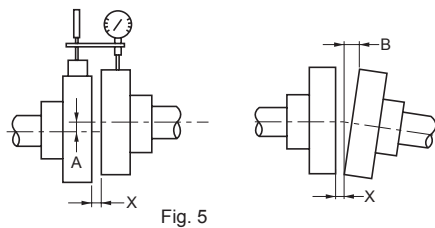

Fig. 5
1. When using a coupling, the dimensions (A, B, X) in Fig. 5 should be within the accuracy shown in Table 8.